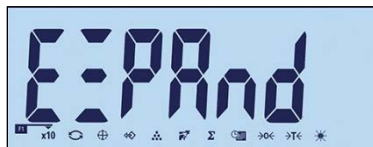

Figure 3-40: Configuring Function Key 1
- Function keys can also be configured from the home screen. Press and hold the function key to be configured to access the configuration screen (Figure 3-40, Figure 3-41).
Access the F2.1.1 menu. Use the up $\rightarrow 0 \leftarrow$ and down $\rightarrow T \leftarrow$ keys to select the required function from the options shown in Table 3-3. Focus will change to indicate the selected function, as shown in Figure 3-40, where **Expand x10** is selected. Press $\rightarrow 0 \leftarrow$ to confirm the selection.